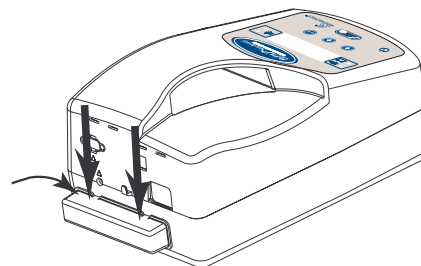

Figure 4-2 *Filter Cover Installed*
- STEP 4** As shown in Figure 4-2, swing the top of the cover into place and press down on it to engage the cover catches in the air inlet opening.